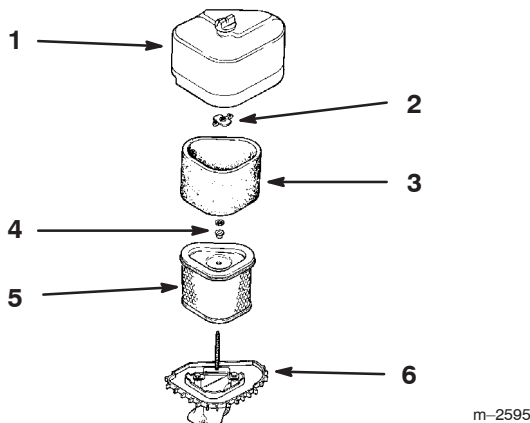

Figure 16
2. Clean around the air cleaner to prevent dirt from getting into the engine and causing damage. Unscrew the cover nut and remove the air cleaner cover (Fig. 16).
3. Remove the air cleaner assembly (Fig. 16).
4. Carefully slide the foam element off the paper element (Fig. 16).
1. Carefully slide the foam element onto the paper air cleaner element (Fig. 16).
2. Place the air cleaner assembly onto the air cleaner base (Fig. 16).